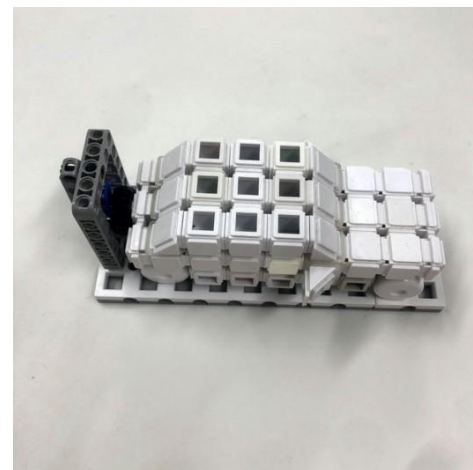

Figure 3-2-2 Finished Position
3.2.2 50 points are granted when the robot successfully pushes the electric vehicle into the charging station with the two magnets attached to each other as shown in figure 3-2-2.